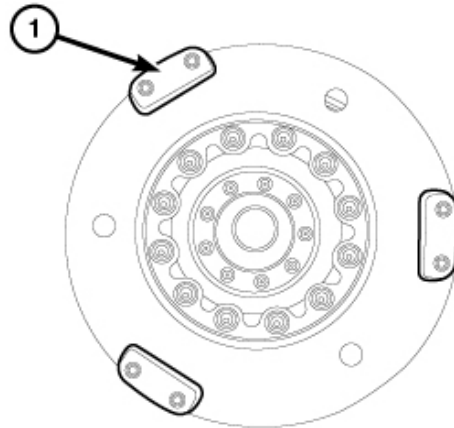

Figure 24 – Torque Converter Bolt Pattern
46. The torque converter is attached with three sets of two bolts (1) 120° apart as shown (Figure 24).